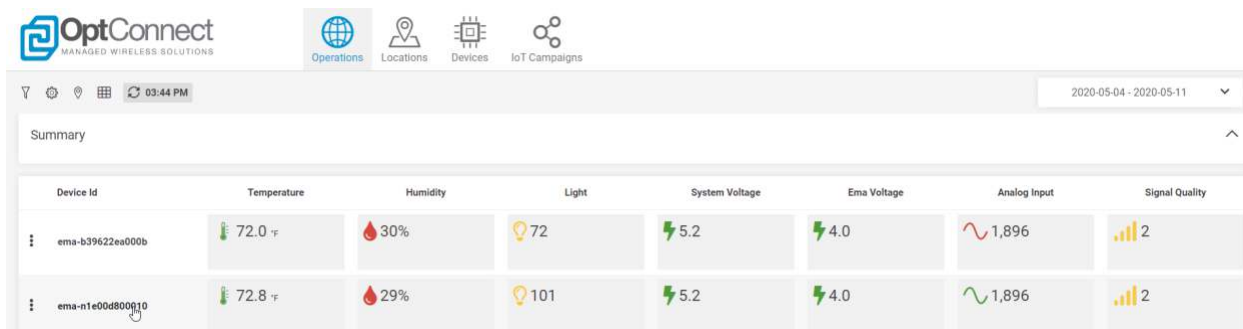

Figure 39
1. Click on the associated ema serial number to go to the “Devices” tab as shown in *Figures 39 & 40*.